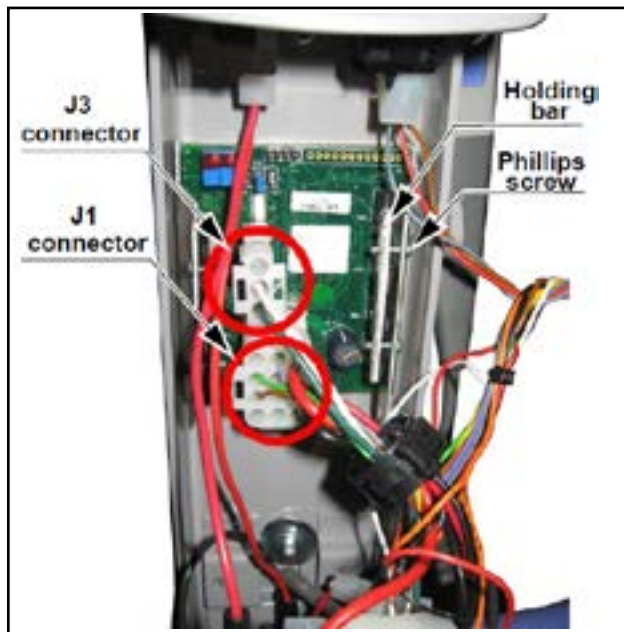

Fig. 19
2. Unplug J1 and J3 connectors as shown on electric diagram from main PCB (see Fig. 19).